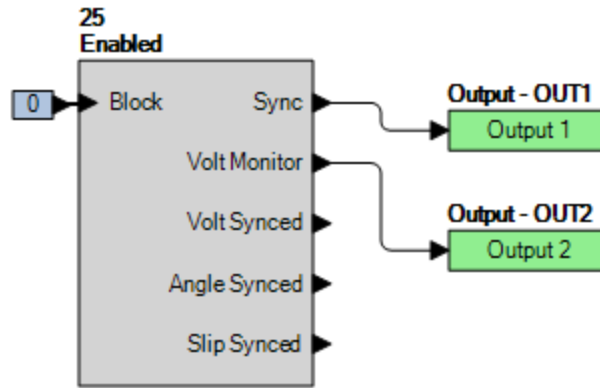

Figure 65-1. BESTlogicPlus Settings (25)
Step 2: Use BESTCOMSPlus to configure the BESTlogicPlus Programmable Logic shown in Figure 65-1.